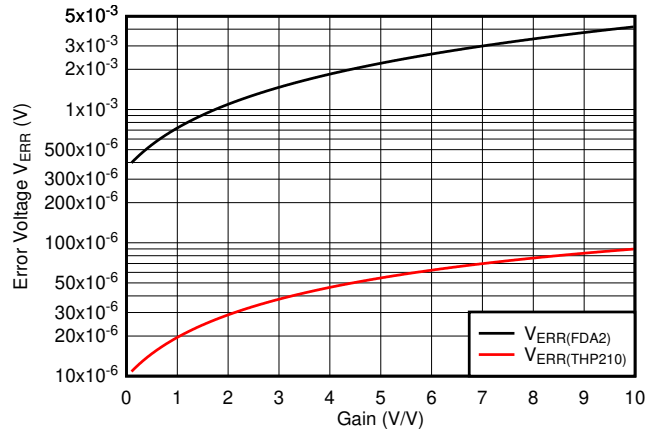
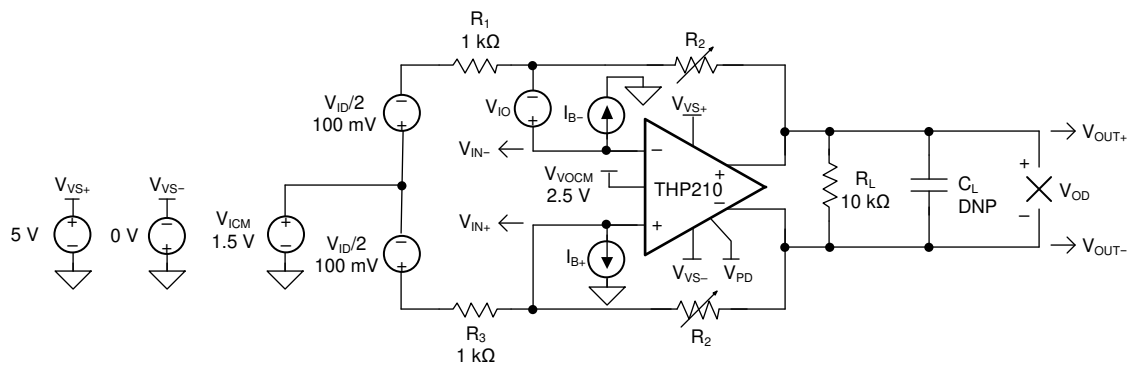

图 9-1. TINA-TI™ Software Simulation of DC Error Voltage at Different Gain Settings (Variable R_2)
图 9-2. FDA DC Error Model
The THP210 super-beta input device features extremely-low input bias current, trimmed low input offset voltage, and the lowest offset drift over the full temperature operating range. These features allow the device to produce a negligible initial error band at 25°C, but also exceptional robust behavior over temperature. The red curve in 图 9-1 showcases a simulation of the total dc error voltage at 25°C versus different gain configurations based on the application configuration shown in 图 9-2.
- Circuit configuration as shown in 图 9-2